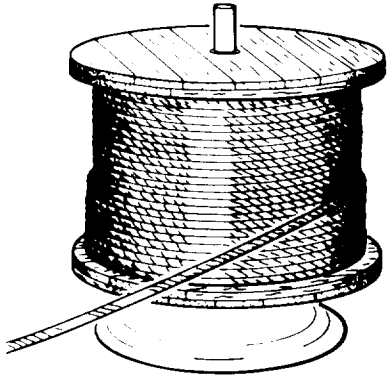

Figure 4-24. On Vertical Unreeling & Stand
2. Method B: Mount the reel on an unreeling stand (Figure 4-24). It is then unwound in the same manner as described in Method A. In this case, however, greater care must be exercised to keep the rope under tension sufficient to prevent the accumulation of slack - a condition that will cause the rope to drop below the lower reel head.